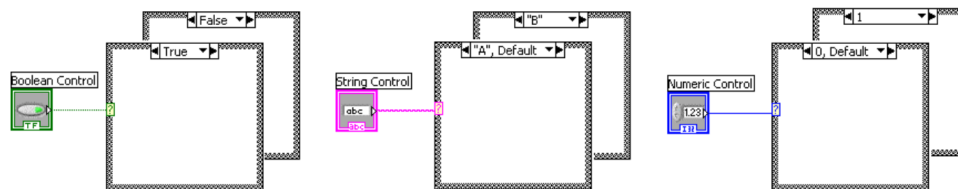

Figure 12: Case structures with different types of input.
**Case structures** allow you to implement *if else if*-type statements in LabVIEW. They behave like *switch cases* in C and Java. Their graphical representation is illustrated in Fig. 12.